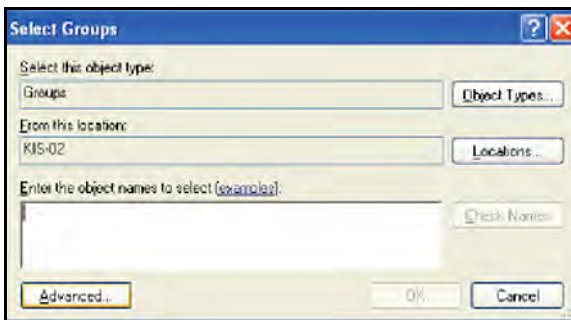

Figure 120: Select Groups Window
9. When the *Select Groups* window opens (see *Figure 120* below), click the Advanced button.